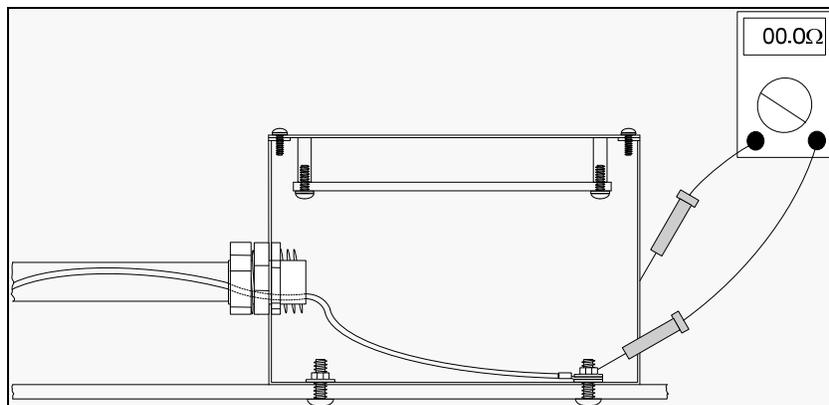

Figure 16 Continuity Testing - Bonding Wire to Case
Step 1: Measure the resistance from the bonding wire to the enclosure as shown in **Figure 16** below.